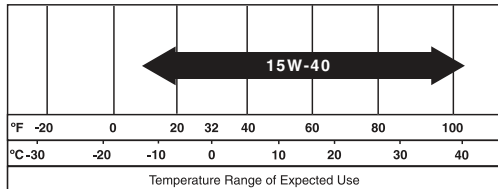

FIGURE 17: Recommended Oil Viscosity
13. Fill the oil fill container (included) with the appropriate amount and type of new (unused) oil. (See Figure 17 for recommended oil type.)